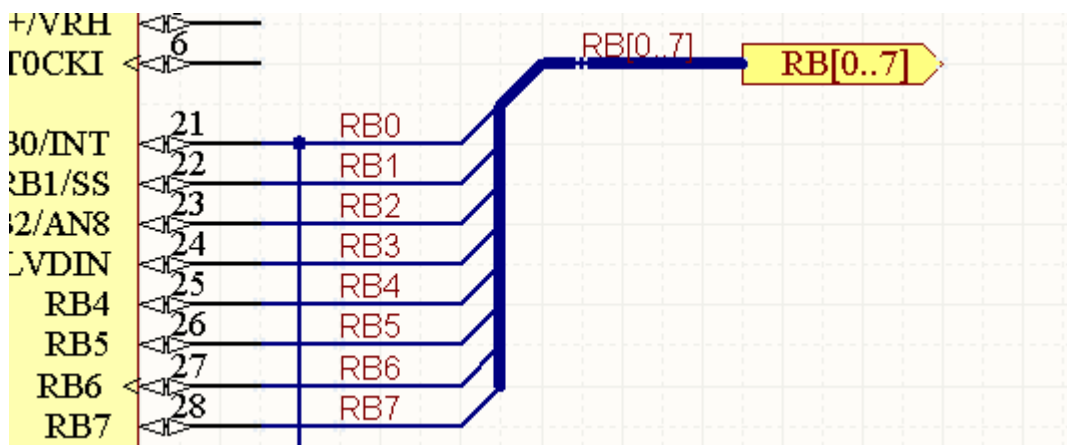

Figure 20. Buses are defined using the referencing system shown.
- Buses must use the bus name / bus element referencing system as shown in Figure 20, and must include the individual net labels and the bus net label.